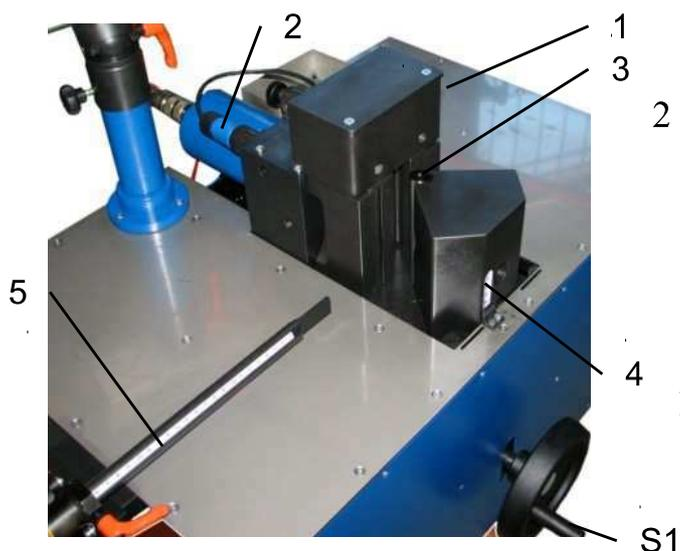

Fig. 5.
1. Mount bending insert [1] (Fig.5).
2. Plug in the insert die [2] (Fig.5).
3. Adjust stamp [3] (Fig.5).
5. The knob S1 should be turned so that the centre of the rail width will coincide with the centre of the bending stamp. Adjust the body height in relation to the busbar – use the ruler for this [4] (Fig.5).
7. Put the busbar to the working space. In order to define the distance use the measuring ruler [5] (Fig.5).
4. Set profiling segment at the required height with the use the knob S1 according to the ruler [4] (Fig.5).
5. With the vertical ruler set the hole distance from the bar end [5] (Fig.5).